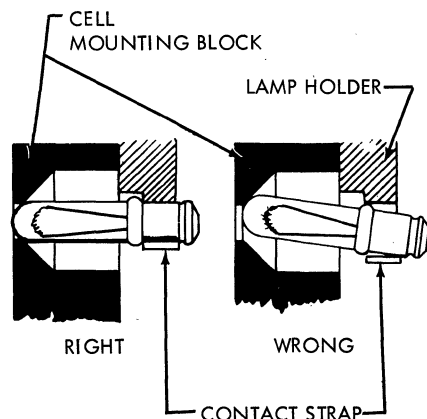

Figure 6-4. Solar Cell Adjustments
4. The lamp holder mounting screws must be loosened to permit the plastic lamp holder to be shifted. This will permit the lamp base to seat firmly in the plastic holder with the lens end fully seated against hole in solar cell mounting block (Figure 6-4).